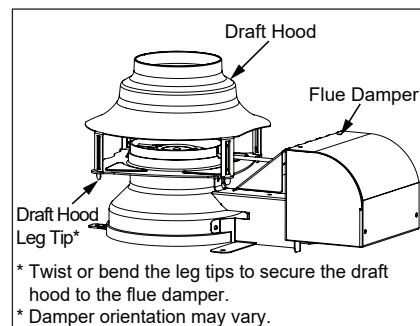

Figure 29 - Install the new draft hood.
- 1 Install the new draft hood by aligning the legs and inserting them into the slots on the flue damper's flange. (See Figure 29.) Do not reuse the draft hood from the old water heater, but rather use the new one that came with your new water heater.